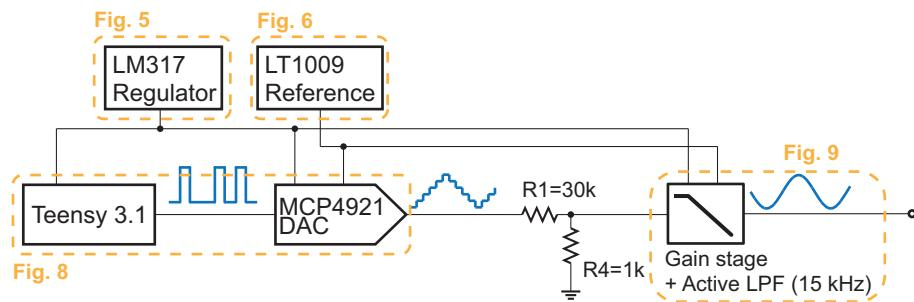

Figure 18: Block diagram of the PCB design.
- (a) If you are using the lab computer, you can run the program from the Spyder IDE that comes with the Anaconda Python distribution. If you do so, make sure that you run the program under the Python console rather than the IPython console. You could also run the program from the command line by “python real-time_audio_analysis.py”. You should expect to see a new window popping up that displays the sampled input signal and its frequency spectrum in real time (Fig. 18).